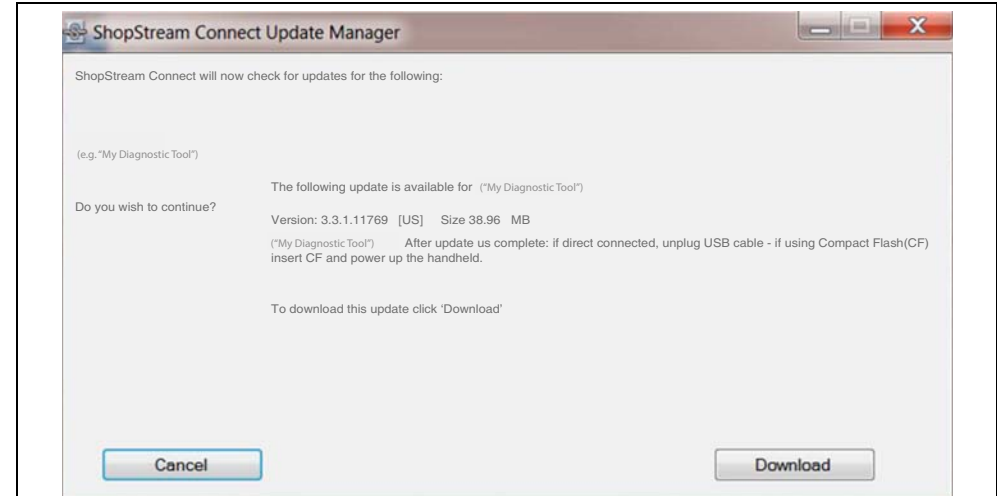

Figure 7-13
2. If service release updates are available, select **Next** to continue, then select **Download** and follow the on-screen instructions to complete the installation (Figure 7-13).